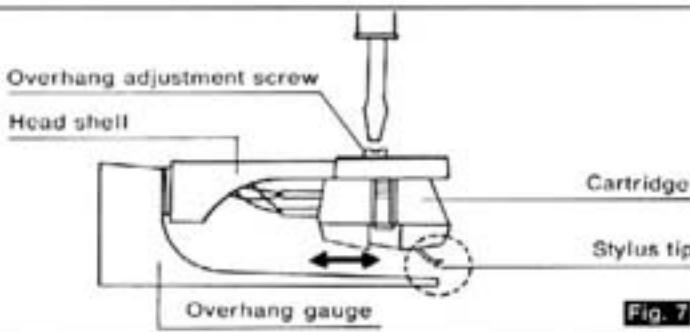

Fig. 7
3. Insert the head shell into the gauge. (See Fig. 7).